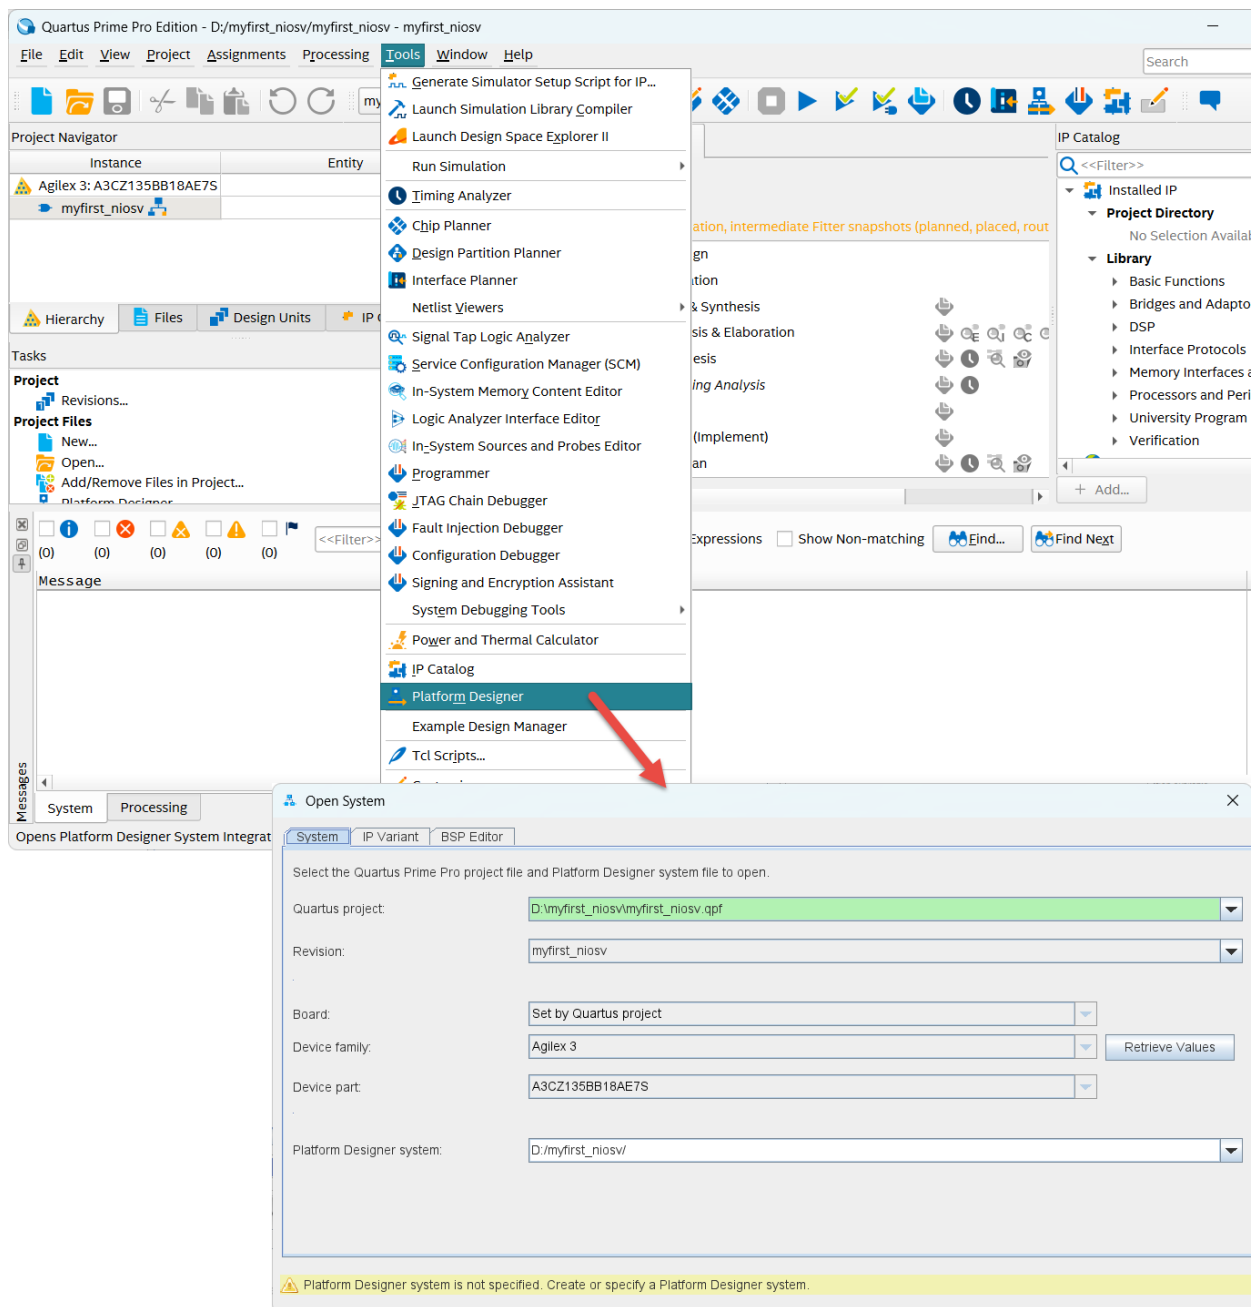

Figure 2-5 Platform Designer Menu
1. Choose **Tools > Platform Designer** to open new Platform Designer system wizard. See Figure 2-5.